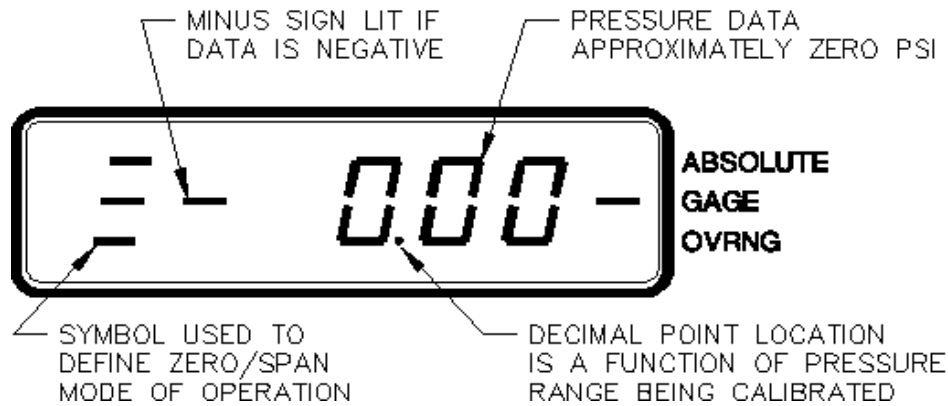

Figure 3-2. Zero/Span Calibration for Gage Only Units
In the calibrate mode, the UPC5200/UPC5210's numerical display is used to provide operator prompting symbols as well as displaying the various data formats employed. For example, in Figure 3-2, the data format shown is obtained as soon as the ZERO/SPAN position of the rotary switch has been selected.
Selecting the ZERO/SPAN position on the Condec Calibration Module (PN 60109) places the instrument into its ZERO/SPAN calibration mode. The display is shown in Figure 3-2.
1. Set the Condec Calibration Module (PN 60109) to the ZERO/SPAN position. The display is similar to Figure 3-2 on page 10.